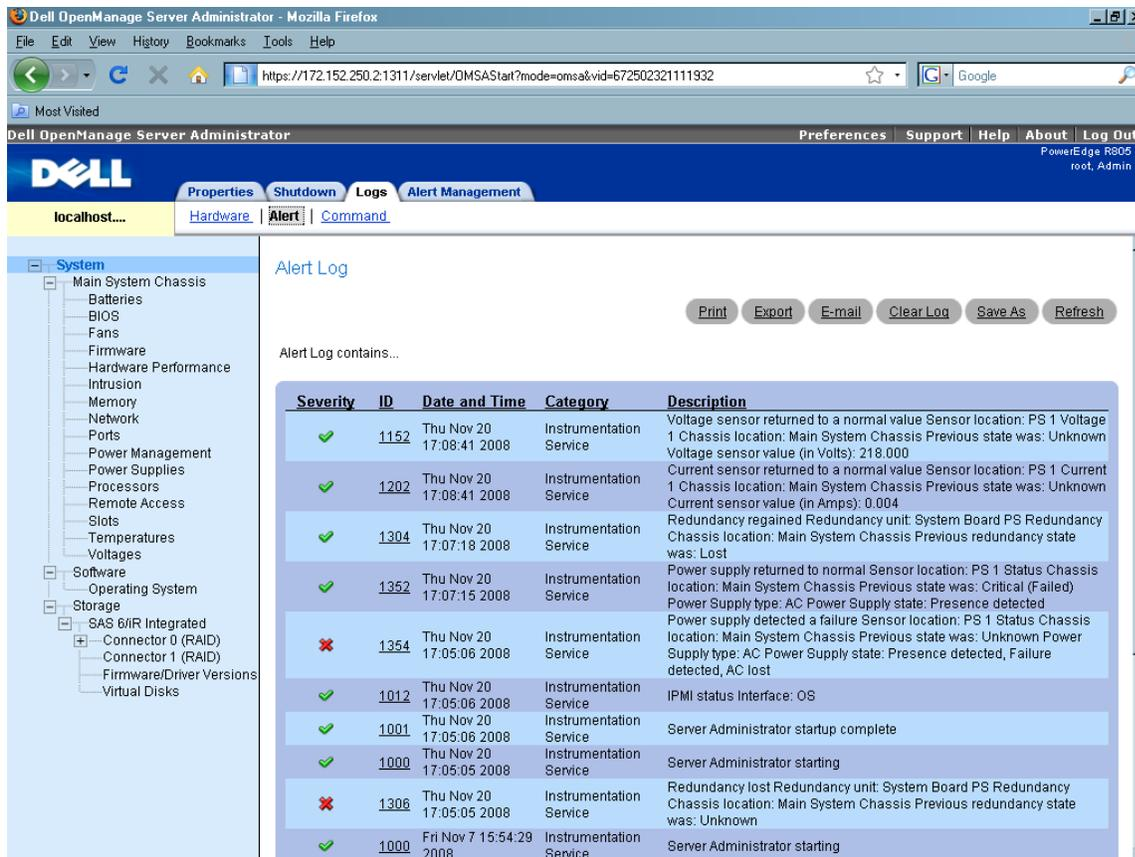

Figure 4: Alert Log
- **Alert Log** - Lists events generated by OMSA, including alerts that correspond to the storage sub-system, as shown in Figure 4.